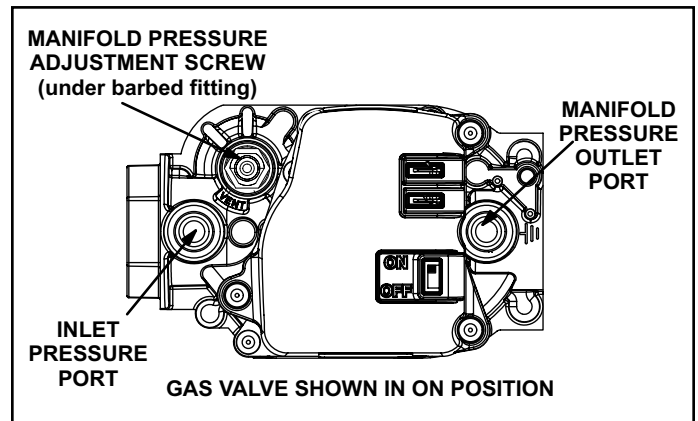

Figure 55. Gas Valve
### Gas Valve Operation (Figure 55)
6. Move gas valve switch to OFF. See Figure 55.
8. Move gas valve switch to ON. See Figure 55.
When testing supply gas pressure, use the 1/8" N.P.T. plugged tap located on the gas valve to facilitate test gauge connection. See Figure 55. Check gas line pressure with unit firing at maximum rate. Low pressure may result in erratic operation or underfire. High pressure can result in permanent damage to gas valve or overfire.